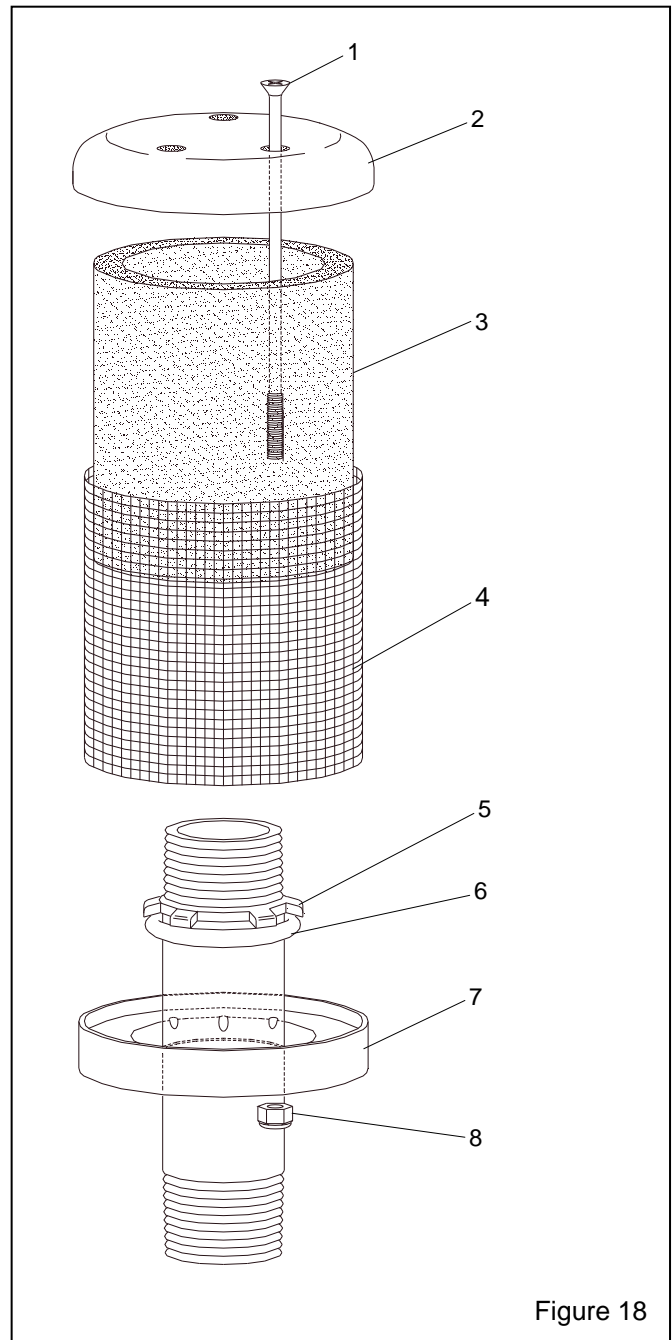

Figure 18
7.12 Exhaust Muffler, Figure 18